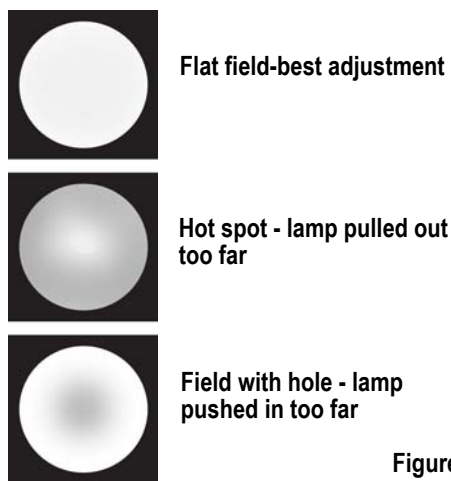

Figure 5
- Step 5: Finally, turn the inner knob either clockwise or counterclockwise to achieve an optimum flat field. See Figure 5.